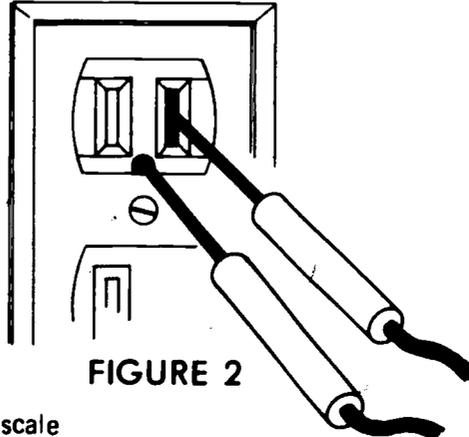

FIGURE 2
- E. Check voltage across ungrounded (narrow slot) and grounding slot (Figure 2)